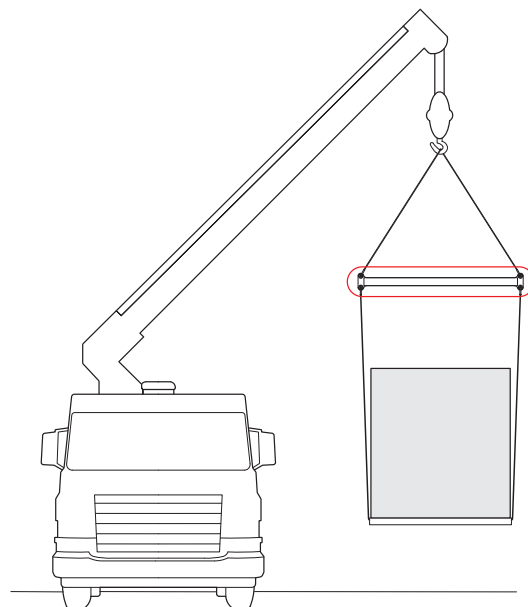

Figure 3.4 Crane with Spreader Bar
- Use spreader bar to avoid damaging the siding and flashing (see Figure 3.4 Crane with Spreader Bar)